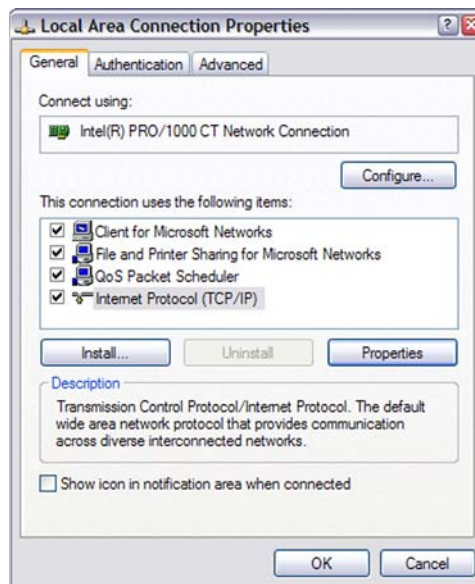

Figure 66: Local Area Connection Properties window
5. From the Local Area Connection Status window, click **Properties**. The Local Area Connection Properties window appears (Figure 66).